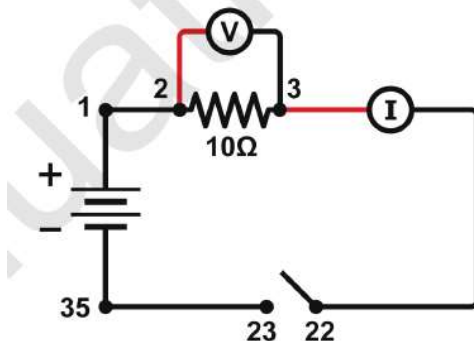

Figure 1
In the first part of the experiment you will use the differential voltage probe (voltmeter) to measure V , the voltage drop across the component, and the current probe (ammeter) to measure I , the current flow through the component. Keep in mind that ammeters must be connected in series in circuits, while voltmeters must be connected in parallel across the circuit component. Figure 1 shows the proper setup.
4. Connect the batteries (power supply), 10Ω resistor, and the current probe as shown in Figure. Note: The numbers in Figure 1 refer to the numbered terminals on circuit board. 2 Do not connect the voltage probes yet.
7. Connect the voltage probes as in Figure 1 and press the red button again.